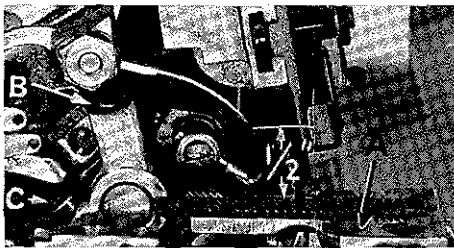

Fig. 3
With throat plate assembled in position, needle should center in the front end of needle slot. When needle is at high position, the needle point should be set  $1/2$  inch above the throat plate (A, Fig. 3) for Style 39500 JK. For Style 39500 JL the needle points should be  $7/16$  inch above the throat plate. To align needle or set the height above the throat plate, move needle driving arm (B) by loosening clamp screw (C). After needle has been properly set, tighten clamp screw and remove throat plate.